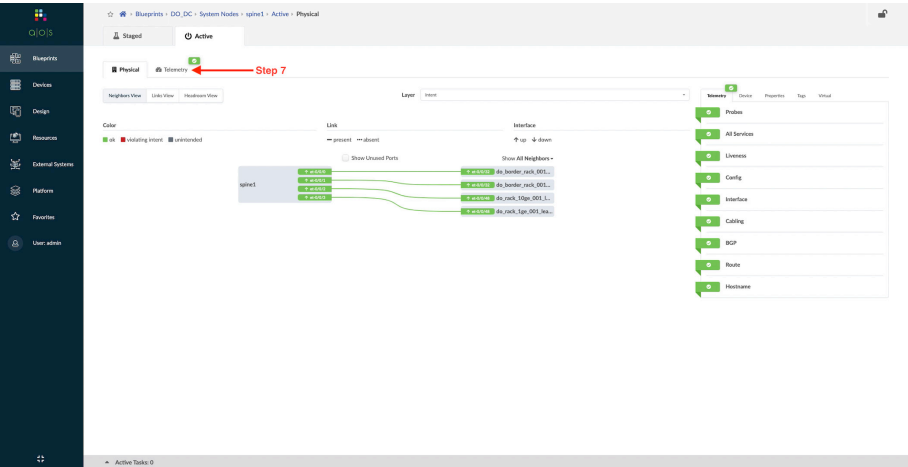

Figure 7.13 Verifying a Configlet Has Been Applied
Step 7: Click Telemetry. See Figure 7.13.